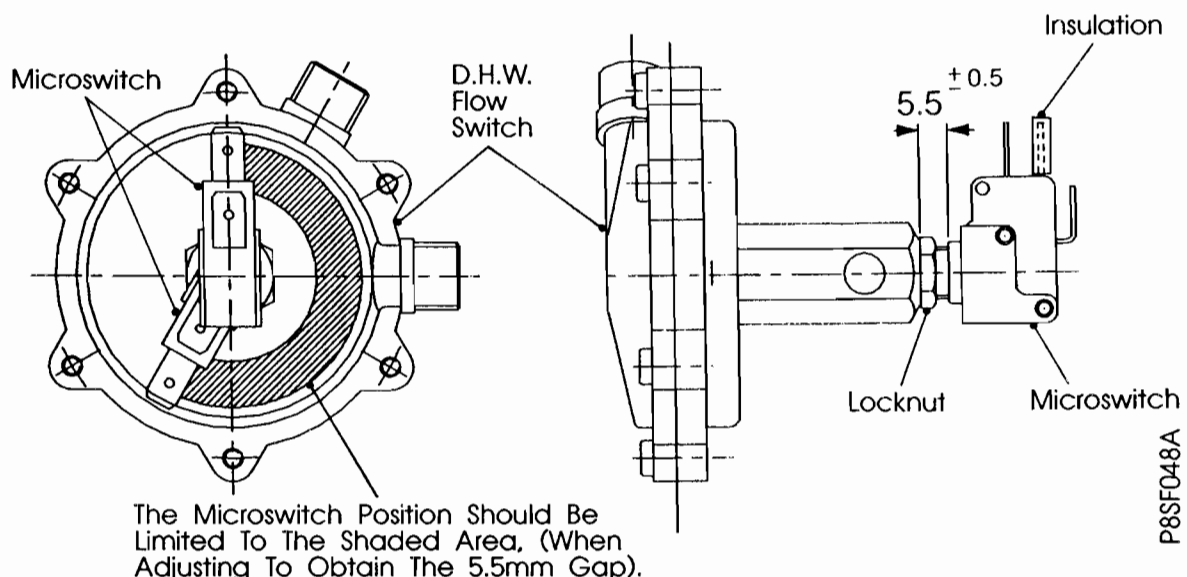

Fig. 28
- Transfer the micro switch assembly by loosening the locknut and unscrew the switch, refit the micro switch to the new flow switch and position the switch as dimensioned in Fig. 28.
- Re-assemble in reverse order. Ensure the wires are connected correctly as shown in Fig. 28.
- Loosen the locknut and remove the switch, fit the new micro switch (with locknut) to the flow switch and position the switch as dimensioned in Fig. 28.